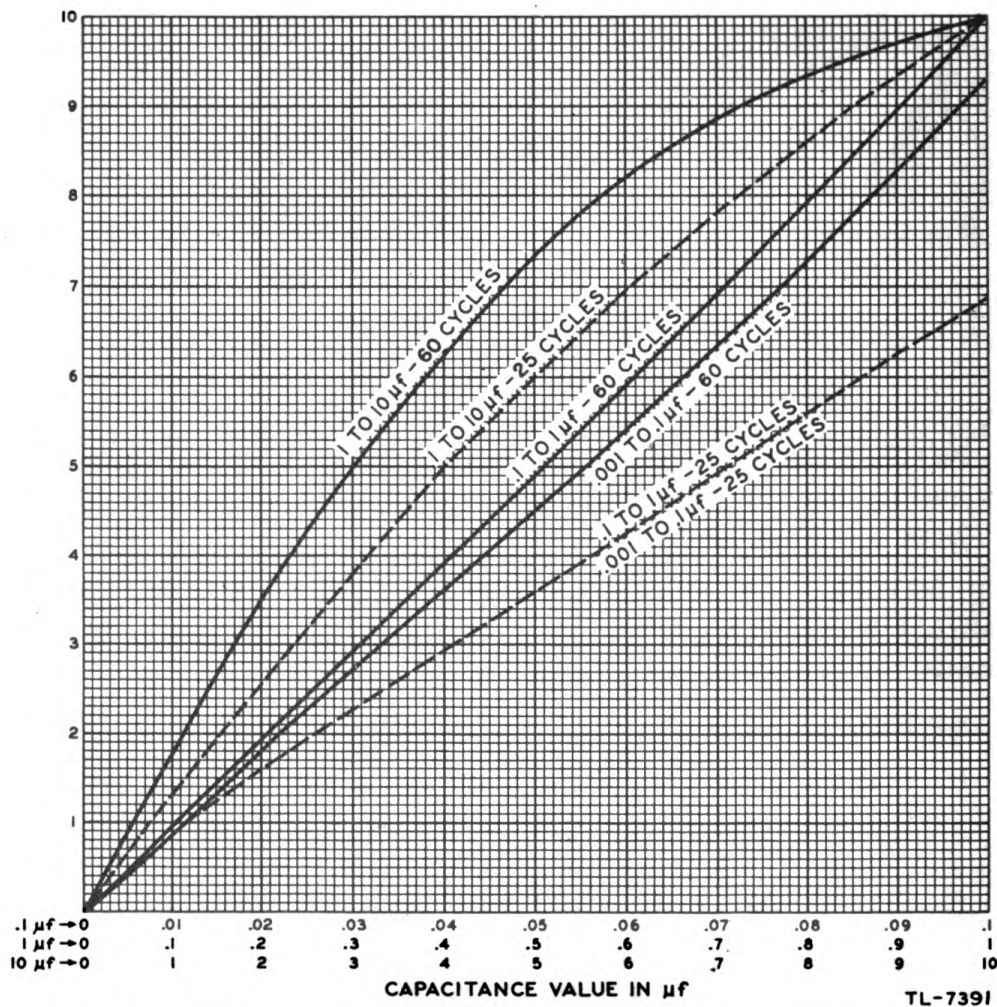
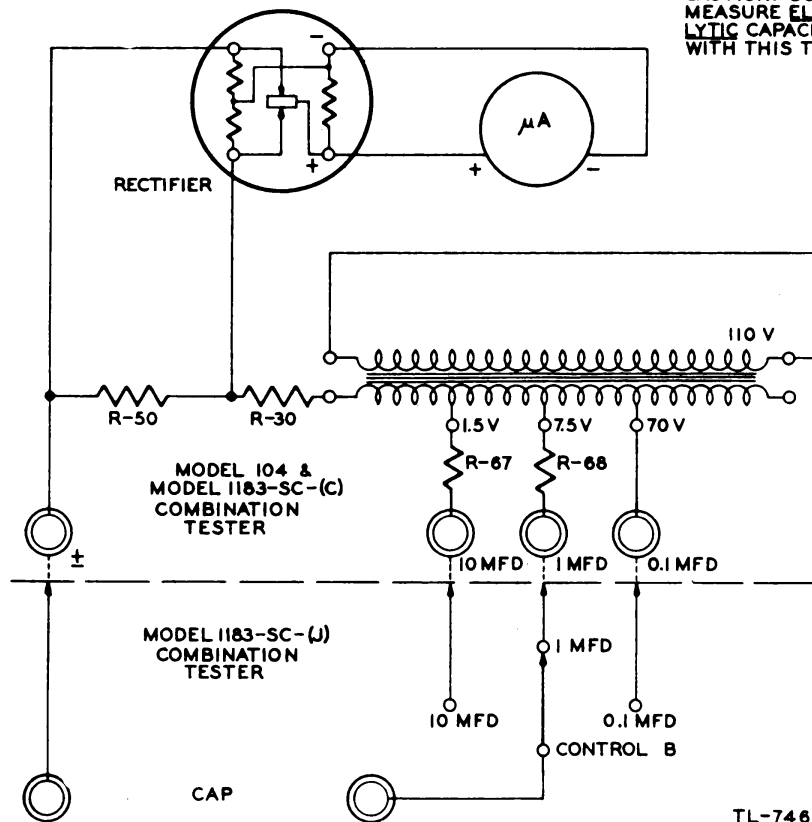

FIG. 10. COMBINATION TESTER, CAPACITANCE TEST GRAPH
FIG. 18. MODEL 104 COMBINATION TESTER, SIMPLIFIED CAPACITANCE MEASURING CIRCUIT
h. Read the meter indication on the 0-10 A.C. scale. Then refer to the capacitor test graph (fig. 10) to determine the capacitance value corresponding to the meter reading. The capacitance value chart lists approximate readings for 60-cycle current.
g. Read the meter on the 0-10 A.C. scale. Refer to the capacitor test graph (fig. 10) to determine the capacitance value corresponding to the meter reading.
e. *Combination Tester as a Capacitance Measuring Device (fig. 18).* When **Control D** is set at CAP, the circuits are so arranged that either the 1.5-, 7.5- or 70-volt winding of transformer (T-1) is placed in series with the capacitor being tested. Resistors (R-50) and (R-30) are shunted across the rectifier input. One terminal of the capacitor under test is connected to an input terminal of the rectifier. The other input terminal of the rectifier is attached to resistor (R-30). The indicating meter is placed across the output terminals of the rectifier. The meter is read on the 10-volt a-c scale. This reading is used with the capacitance graph (fig. 10) to determine the capacity of the capacitor under test.